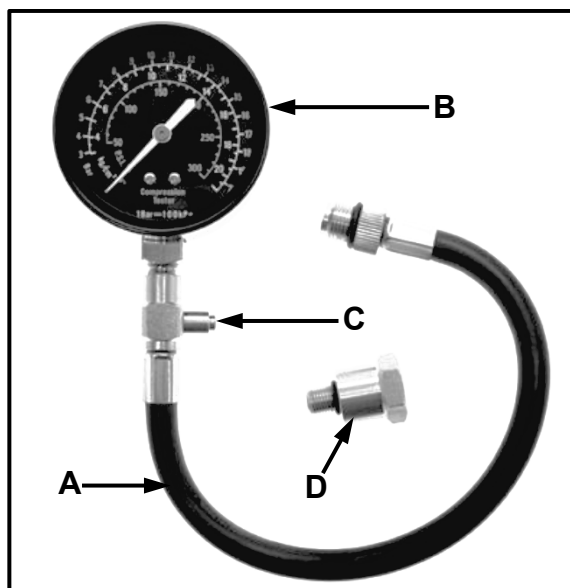

FIGURE 5.1
5.1 FIGURE 5.1 below shows a compression tester. Label **A–D**.